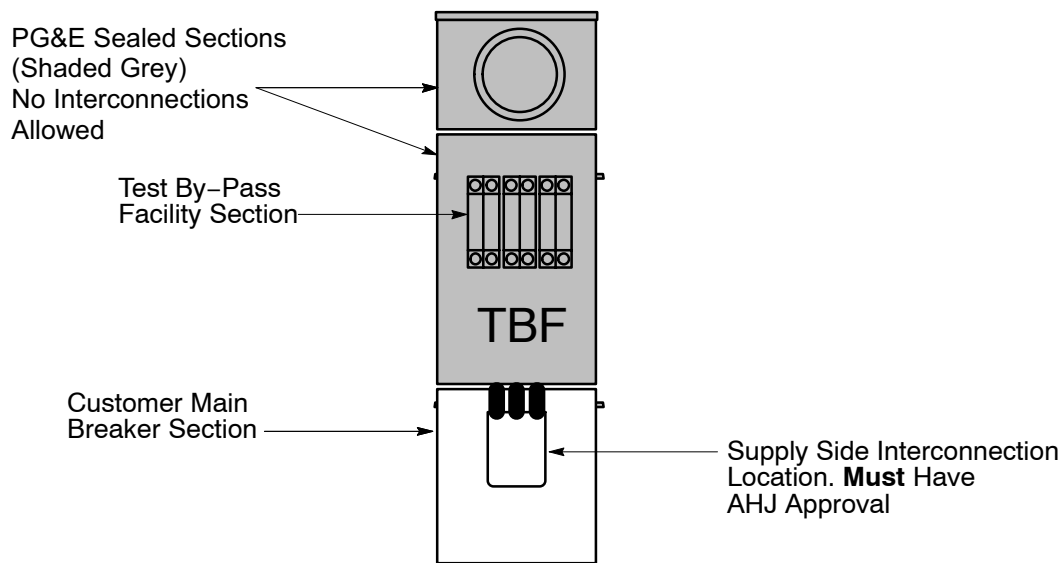

**Figure 1**
4. Figure 1 – Figure 7 on Pages 2 – 7 distinguishes the separation between PG&E and customer sections and the designated Supply Side Interconnection Locations. Interconnections are not allowed in any PG&E sections (shaded grey).